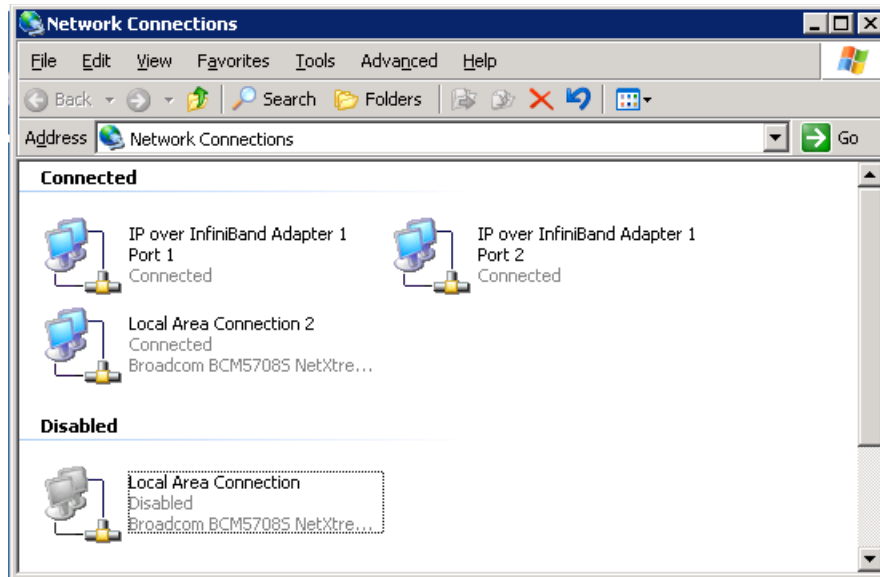

Figure 5-7 Verify IP over InfiniBand virtual interfaces from Network Connections menu
3. Verify that a Topspin IPoIB Virtual Channel Adapters for each port on the blade server are listed in the Network Connections menu as shown in Figure 5-7.